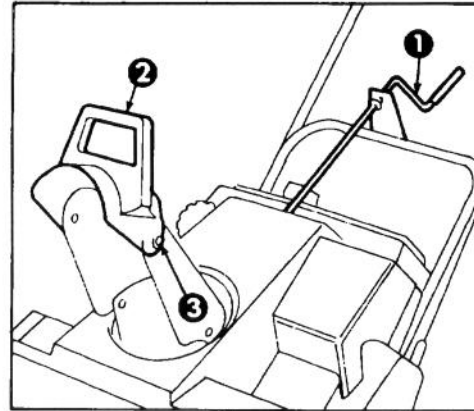

Figure 8
### OPERATING TIPS (Fig. 8)
1. **ADJUSTING DISCHARGE CHUTE**—Rotate chute crank clockwise to move discharge chute to the right and counterclockwise to move chute to the left. Deflector handle on top of discharge chute is used to control the height of the snow stream. Do not over tighten deflector mounting nuts (Fig. 8) so excessive force is required to operate deflector.